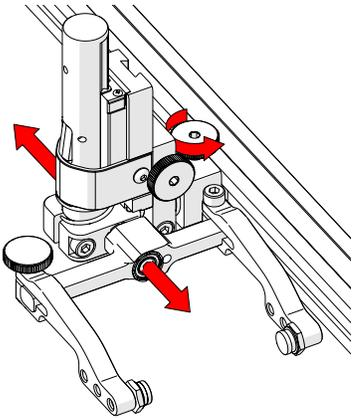

Fig. 74 - Adjust on frame bar
1. The probe holder adjustment knob allows the probe holder to be attached to a frame bar, as well as horizontal positioning on a frame bar (Fig. 74).